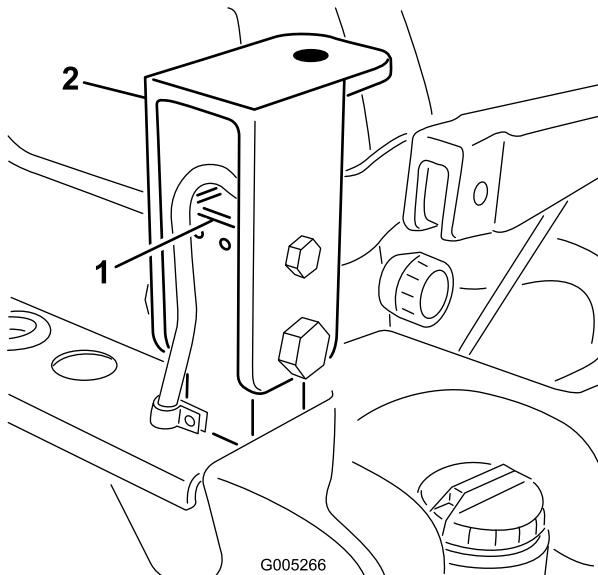

Figure 95
- Loosely install a cab mount support to each ROPS post with two bolts (1/2 x 3 inches), two nuts (1/2 inch), two bolts (3/4 x 3-1/2 inch) and two nuts (3/4 inch) (Figure 95). Make sure the top plate hole is positioned forward. Do not tighten bolts at this time.